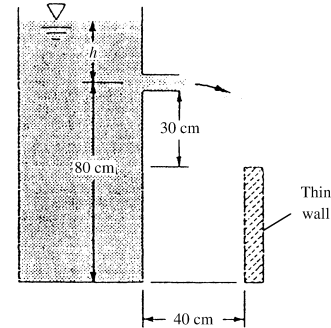

Fig. P3.154
3.154 In Fig. P3.154 the exit nozzle is horizontal. If losses are negligible, what should the water level h cm be for the free jet to just clear the wall?